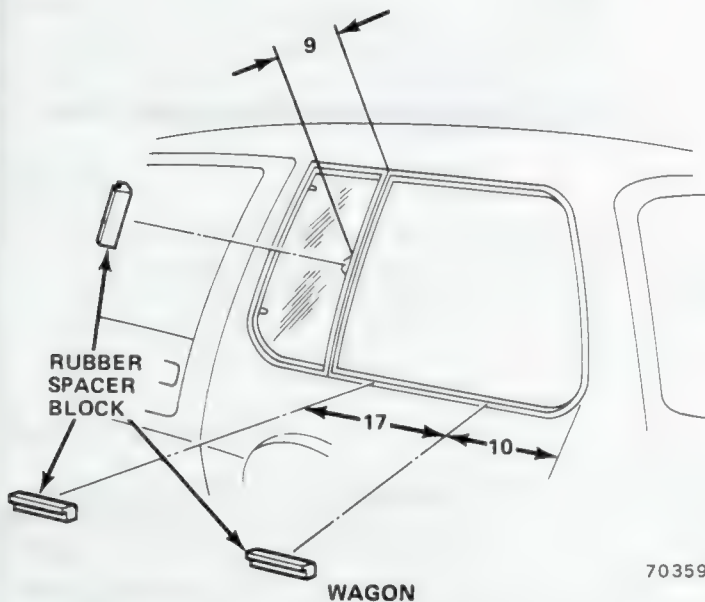

Fig. 3K-4 Installation of Rubber Spacer Blocks—Pacer (Inches)
- (1) Correct any moulding or metal-to-glass defects.
- (2) Check reveal moulding clips for proper position or replace, if broken.
- (3) Position rubber spacer blocks as shown in figure 3K-4.